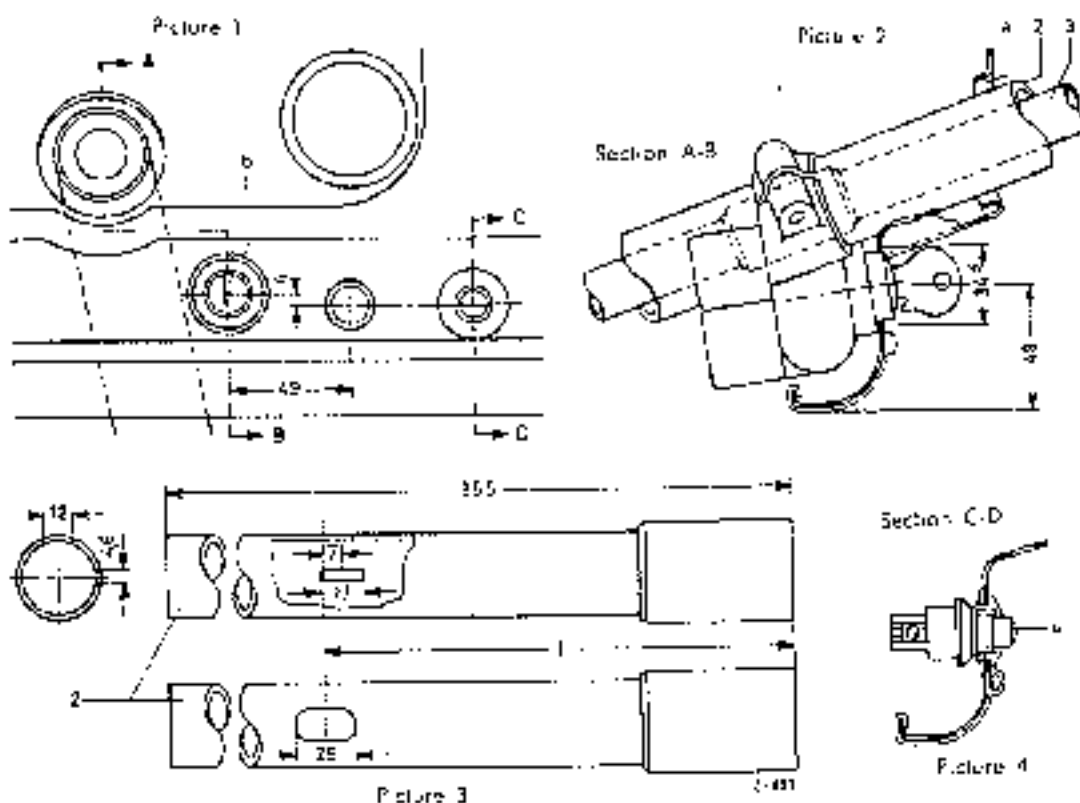

Fig. 46-8/5
20. Slide the rubber support (21) with shims (33) onto the cross strut under the steering column jacket and install the clamp. Install the two hexagon screws (25) from below and tighten. Also tighten the clamping screw of the steering lock (see Fig. 46-8/4).
When a steering lock is installed subsequently, the steering column jacket need not be replaced, since it can be modified for the installation of the steering lock. To do this mark and file the two slots on the steering column jacket as shown in picture 3 in Fig. 46-8/5, making sure that the two slots are arranged at the correct distance from one another and at an angle of 90°.
After having mounted the steering column jacket on the steering tube, cut out the circular opening (b) (approx. 34 mm \varnothing) on the instrument panel to take the cylinder of the steering lock. To do this loosen the hexagon screw on the steering lock and back out the grub screw slightly so that the steering lock can be moved on the steering column jacket. When filing the opening check the steering lock for position several times (Fig. 46-8/5).
Remove the starter switch and replace it by the push-button switch (4) Part No. 000 545 27 08 (see Fig. 46-8/3).